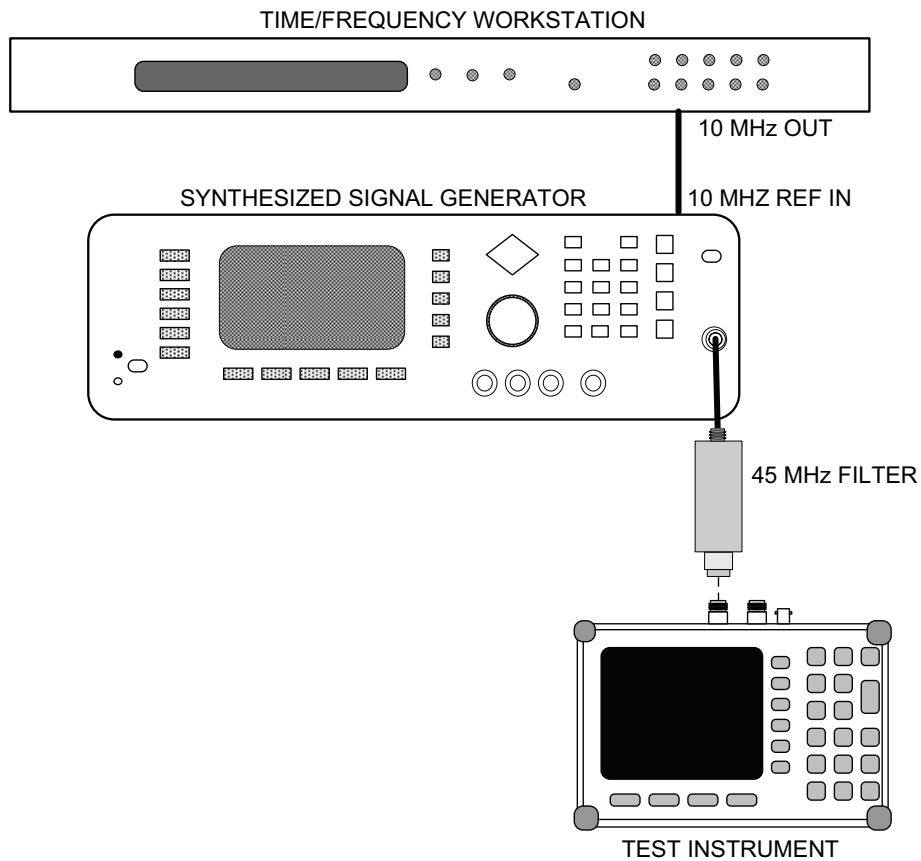

Figure 2. Second harmonic distortion - equipment setup.
- (1) Connect equipment as shown in figure 2.
- (2) Turn TI off. Press and hold the **ESCAPE/CLEAR** key and the **ON/OFF** key simultaneously to turn on the TI.
- (3) Adjust synthesized signal generator for a frequency of 35 MHz and an output of -30 dBm.
- (4) Press TI keys as listed in (a) through (g):